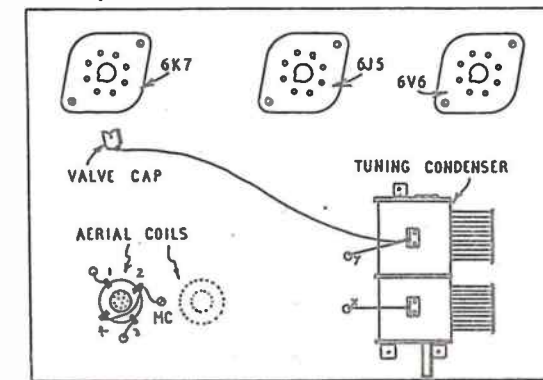

Fig. 2—Top of chassis
The top view of the chassis, in Fig. 2, only shows the left-hand end and centre, since the power pack will be built on
Holes are cut for the valveholders, as shown in Fig. 2, and must be large enough to clear the tags. A washer-cutter can be used, or one of the screw punch devices available for the purpose. Failing this, a ring of small holes may be drilled, the piece broken out, and the edges filed smooth. It is essential that the key-ways be placed as in Figs. 2 and 3, if the wiring plan is to be followed.
Two leads (X) and (Y) in Fig. 2, pass through holes in the chassis, going to tags (X) and (Y) respectively on the wavechange switch. With the coils shown, (1) and (2) go to primary, and (3) and (4) to secondary. Referring to the aerial coil (Fig. 2), tags (2) and (4) thus go to chassis. Tag (1) goes to aerial (via switch) and tag (3) to 6K7 grid (also via switch.) With the detector coil, (1) goes to 6K7 anode (via switch) and (2) to H.T. positive line. Tag (3) goes to 6J5 grid (again via switch) and tag 4 goes to chassis.